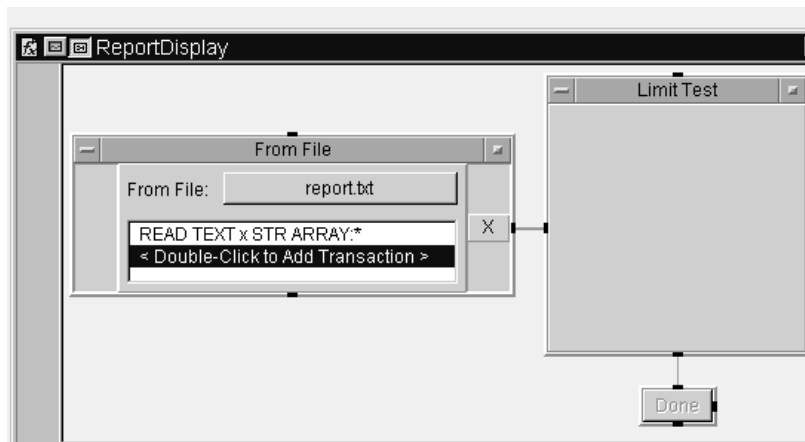

Figure 14.5. The ReportDisplay UserFunction detail view
13. Double-click on ReportDisplay UserFunction; select a FromFile and Logging AlphaNumeric; rename it Limit Test. See Figure 14.5.
14. Select Menu Bar => Flow => Confirm (OK); rename it **Done** via its Properties box; connect the icons as shown in Figure 14.5.